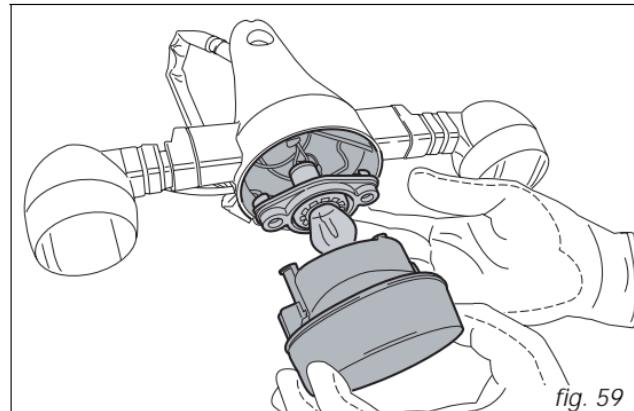

fig. 59
To replace the stop and parking light bulb, unscrew the two screws (1, fig. 58) that secure the glass and remove glass. The bulb is of the banjo-type: press and rotate anticlockwise to remove; fit the spare bulb by pressing and turning clockwise until it clicks (fig. 59). Refit the glass and tighten the screws (1).